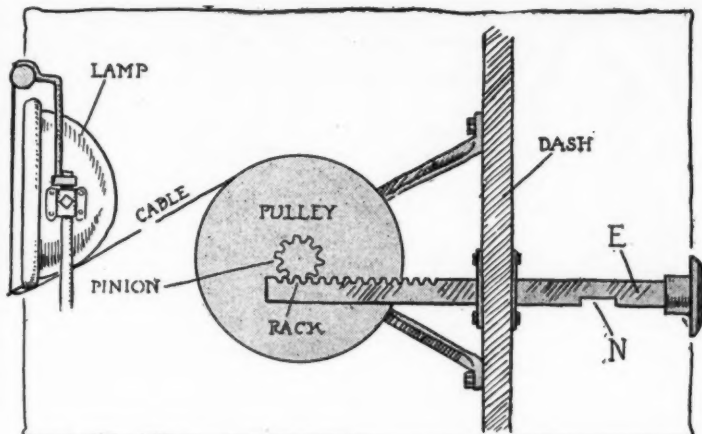

Fig. 7—Eclipse headlight shades
**Eclipse Headlight Shades**—The Auto Mutual Accessories Co. of America, 1937 Broadway, New York City, is now marketing the Eclipse shades for headlights, which serve for taking the glare out of the shine emanating from these brilliant illuminating accessories. That this is necessary has been urged repeatedly by legislators and road users alike, and to satisfy this general demand, the Mutual company is now bringing out the device shown in Fig. 7. The product consists of a blind carried in a nickel tube, the canvas of the blind being wound around a shaft to the ends of which coil springs are so attached as to tend to draw the fabric into the tube. The free edge of the fabric is fitted with a thin steel rail, the center of which carries an eye, and through this passes the end of a cable. The other end of the cable, which is taut by being wound around a pulley, is fixed to the same, and a pinion carried by the pulley shaft is in mesh with a rack; a pedal is attached to the end of an elongation of the rack, and there is a notch cut into the under side of the elongation of the rack. The operation of the device is as